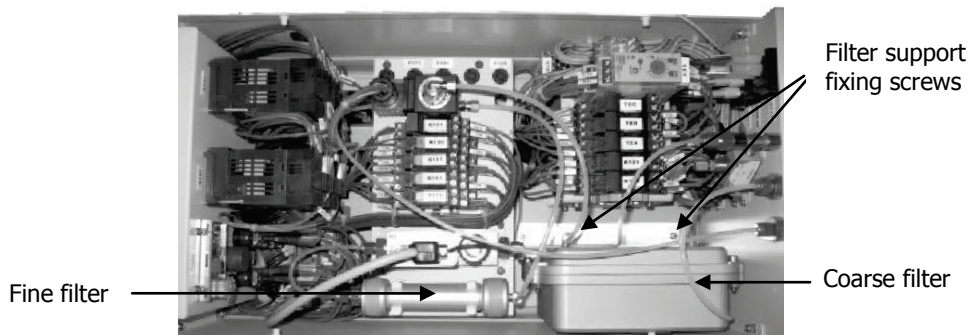

Figure 75 Controller module showing the double-filter system
The flow gas pumped through the system is treated using a double-filtering system within the controller module (Figure 75).
2. Loosen the four screws securing the top cover of the controller module and remove it. Locate the coarse filter (Figure 75).